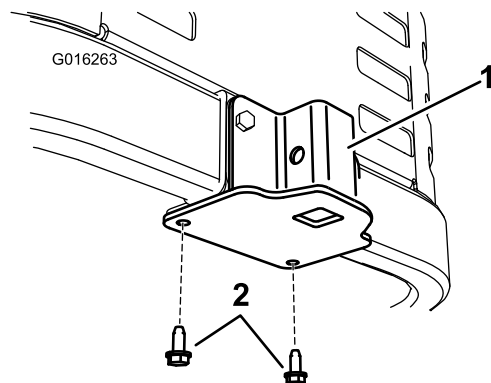

Figure 5
3. Secure the support bracket to the bottom of the machine frame from below using 2 new self-tapping screws (5/16 x 3/4 inch) as shown in Figure 5.
1. Remove the existing self tapping bolts in the bottom of the machine frame (Figure 5). Discard the bolts.